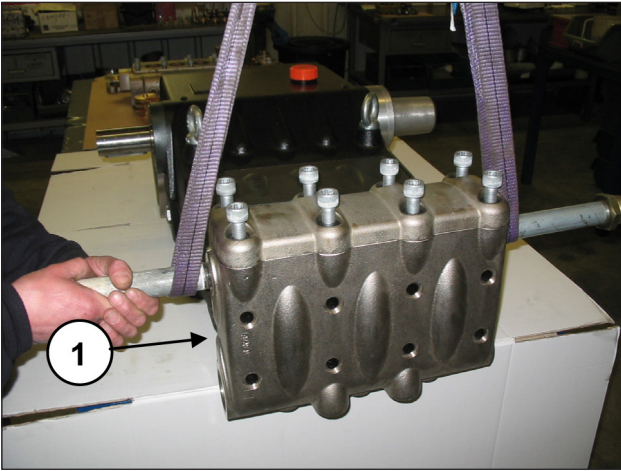
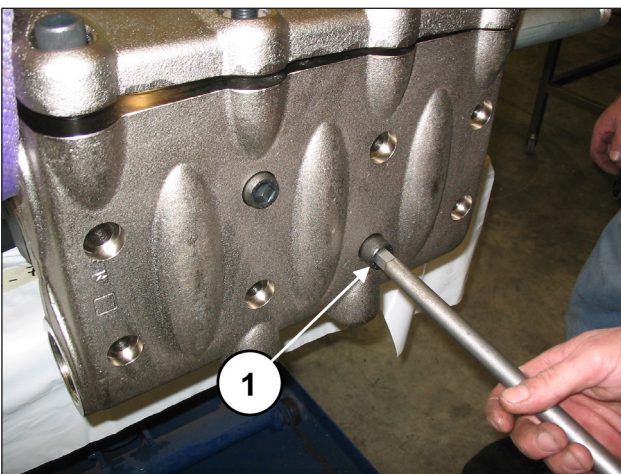

Fig. 134
Fig. 135
Assemble the pump casing head (pos. ①, Fig. 134) taking care not to hit the pistons and screw in the 8 M16x150 screws (pos. ①, Fig. 135).
Tighten the 8 M16x150 screws starting crosswise from the 4 inner screws (see Fig. 135), to then continue with the 4 outer screws, always tightening crosswise.